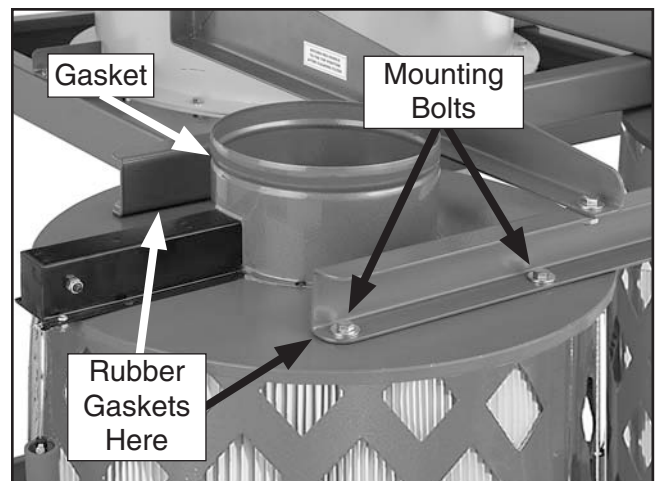

Figure 30. Canister filters mounted to the long support braces.
33. With assistance, position the rubber mounting gaskets between the filter canisters and the long brace supports, and secure the canisters with (8) $\frac{5}{16}$ "-18 x $\frac{3}{4}$ " hex bolts and (8) $\frac{5}{16}$ " fender washers (see **Figure 30**).